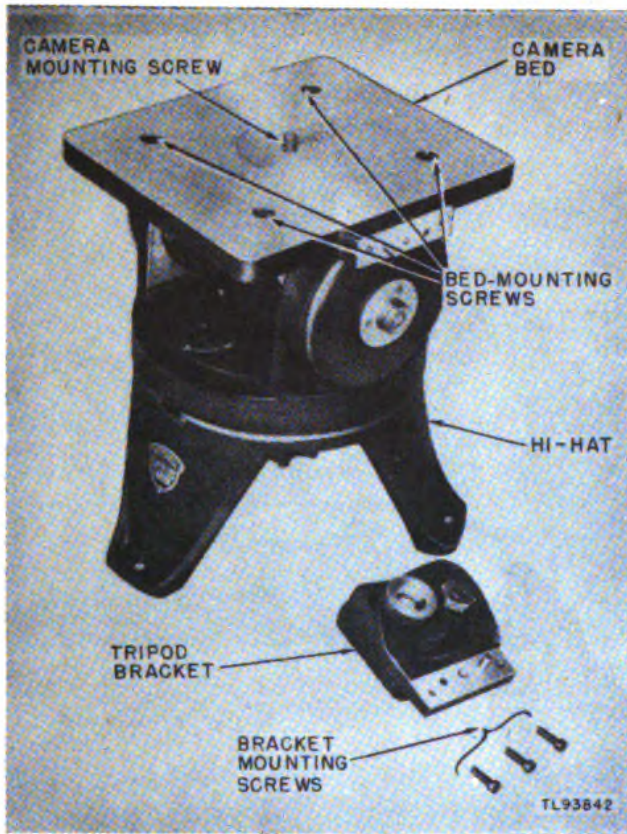

Figure 135. Tripod bracket removed from tripod head.
(fig. 135)
76. Replacing Tripod Head Bracket (fig. 135)